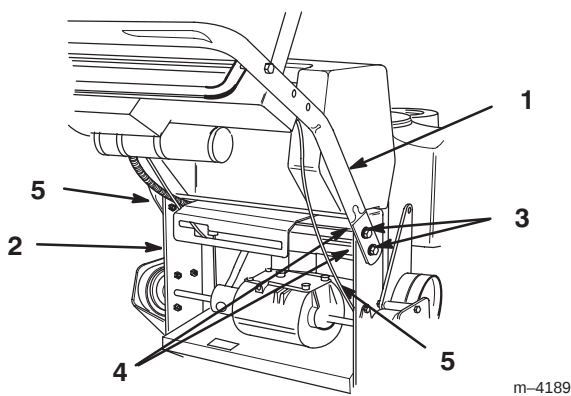

Figure 4
2. Secure each side with (2) 3/8 –16 x 1" (26mm) flange bolts and flange nuts (Fig. 4). Torque bolts to 25 ft. lbs. (34 N•m).
3. Route cables and wire harness inside of frame (Fig. 4). Secure wires and cable to handle with wire tie.